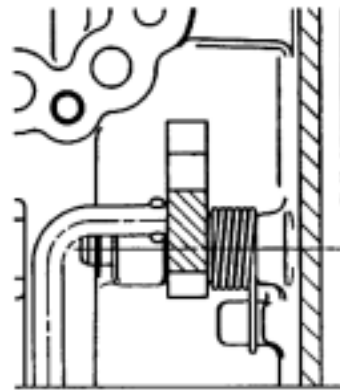

Figure 8.12 Parking operating lever
- e. Install the parking operating lever (as Figure 8.12), including the return spring and shaft pin. Coat the external end of shaft pin with small sealant.